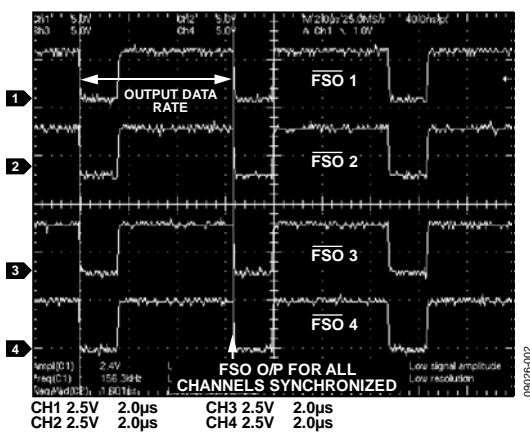

Figure 2. Scope Photo of $\overline{\text{FSO}}$ for Each of the Four AD7765 Channels, Simultaneous Sampling with an Output Data Rate of 156 kSPS
2. Ensures the data output on the SDO pin of each device is synchronous ($\overline{\text{FSO}}$ falling edge of each ADC is synchronized) as shown in Figure 2.